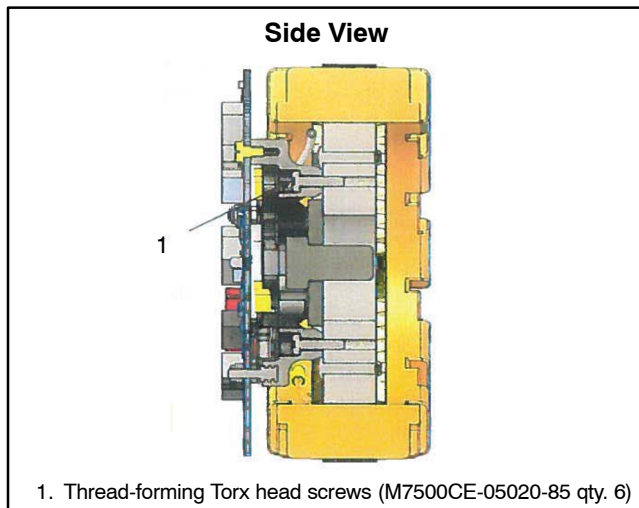

Figure 10 Spacer (GM98936) Installation
- 4.1 **For Units Before Alternator Serial Number 96779:** Mount the new spacer (GM98936) to the exciter armature using 6 thread-forming Torx head screws (M7500CE-05020-85). See Figure 10 and Figure 13.